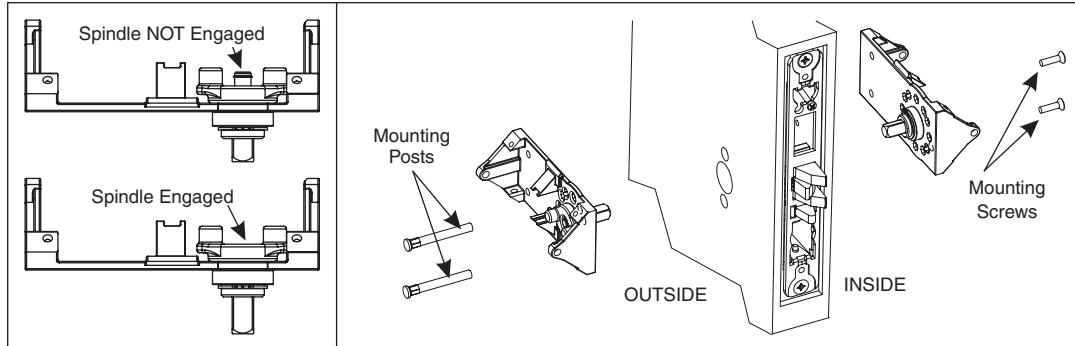

Figure 19
6. Insert mounting posts through outside chassis then install trim on both sides of door using mounting screws (loosely tighten mounting screws). Make sure spindle is fully engaged in lockbody. (Figure 19)